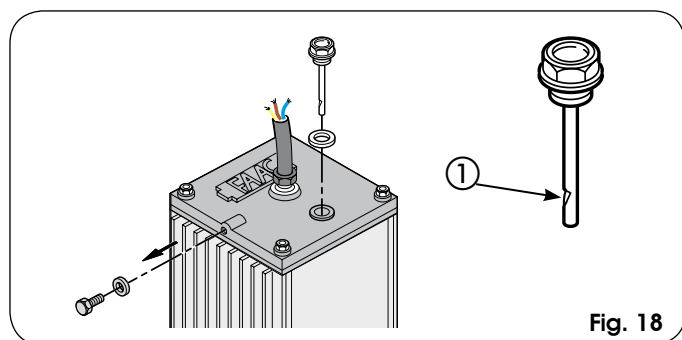
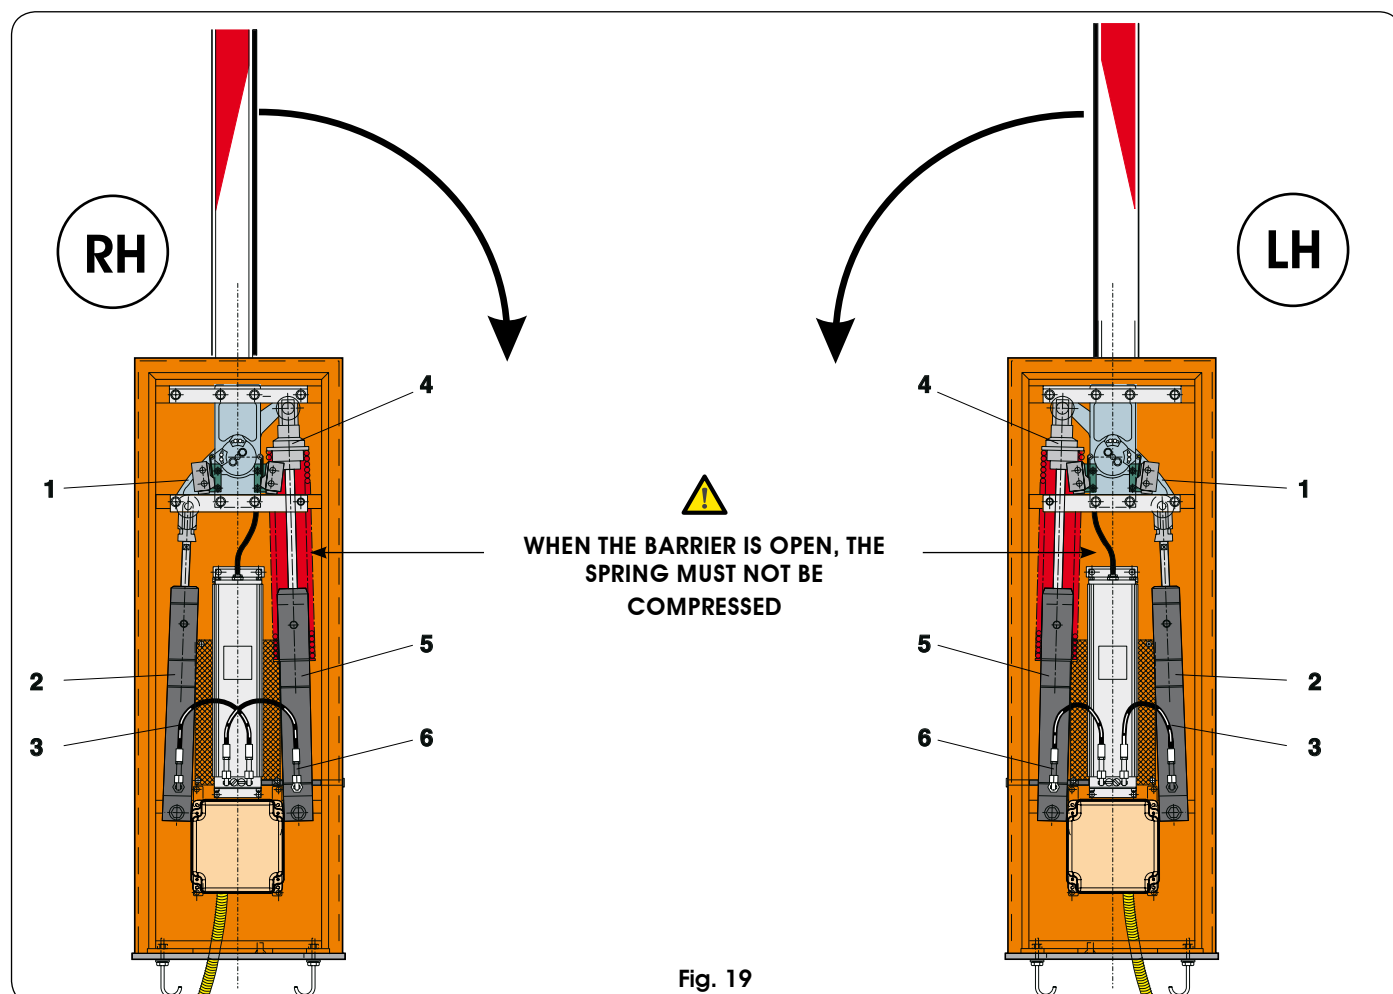

Fig. 18
Fig. 19
The level must not drop below the notch of the control stick (Fig.18 ref. ①) .
To top-up, unscrew the filling plug (fig.18) and pour in oil up to correct level.
5. Fully loosen the spring adjustment ring-nut (Fig.19 ref.4).
6. Detach the feed pipes (Fig.19 ref.3 and 6) from the two pistons and plug the unions.
7. Remove the two pistons (Fig. 19 ref. 2 and 5) from the upper and lower fittings and reverse their position, taking the rocker (Fig.18 ref. 1). against the opening travel limit mechanical stop.
8. Remove the pinion pocket and re-install it to set the barrier at opening as in figure 19.
9. Fit the feed pipes as shown in Fig. 19, according to the configuration of the barrier (RH or LH).